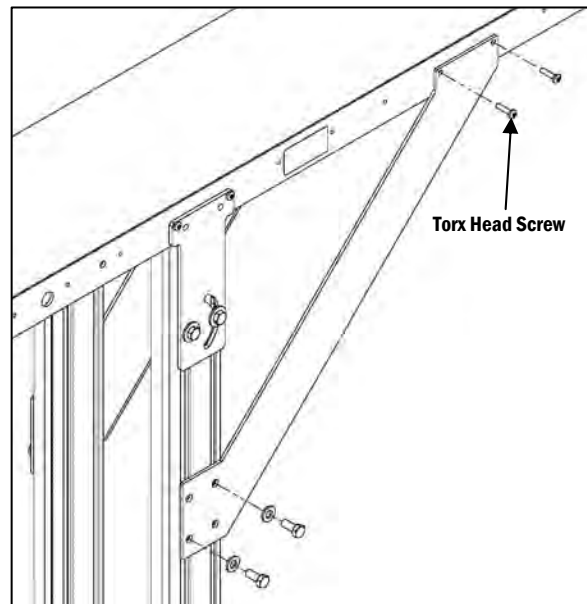

Figure 2
c. Using a Screw Gun with a Torx bit, drive the Torx Head Screws into the top section of the Brace (Figure 2). The holes will line up with accessory holes in the conveyor's frame.